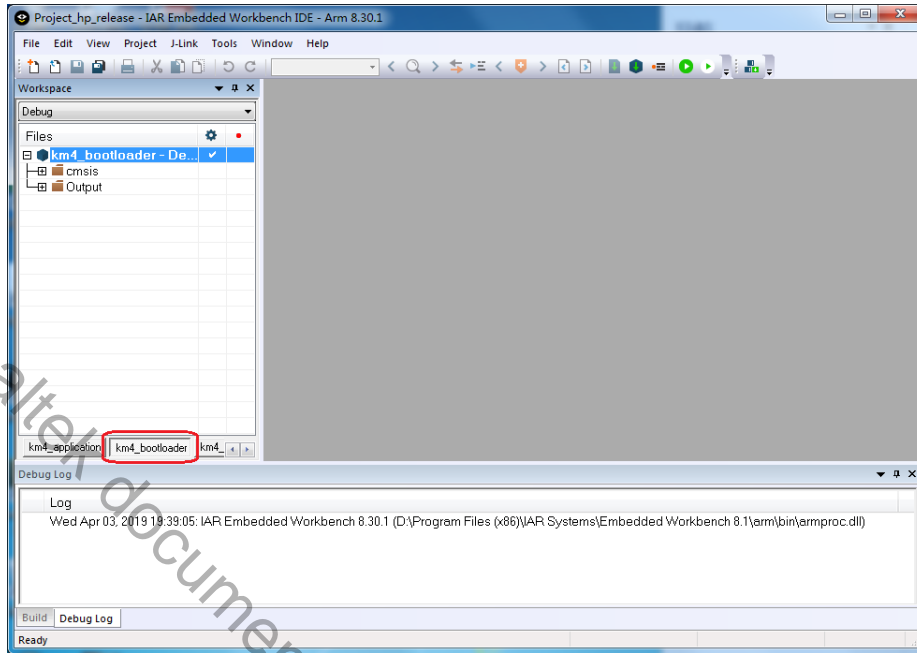
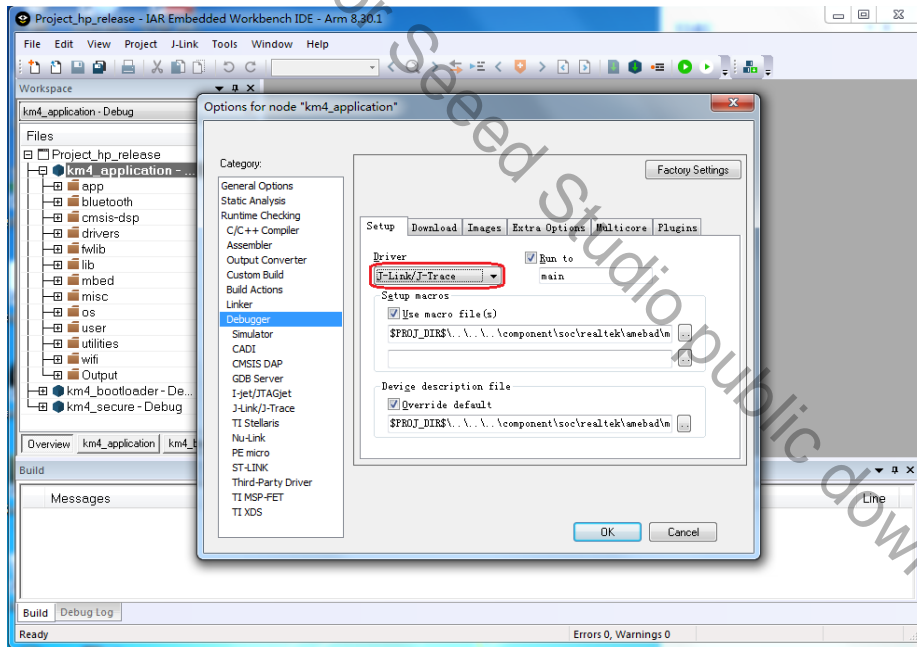

Fig 6-12 Switching to the target project view
Fig 6-13 J-Link debugger setup
- (1) Choose the target project display in Workspace window, for example, km4_bootloader as Fig 6-12 shows.
- (2) If using J-link debugger, check whether the J-link debugger setting is correct.
- a) Click **Project > Options > Debugger > Setup > Driver**, and choose "J-Link/J-Trace", as Fig 6-13 shows.